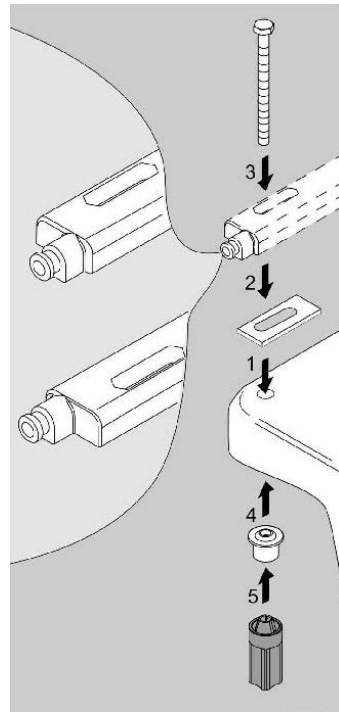

Fig. 3
10 Setup (Fig. 3 – 8)
2. Fix the crossbar with anti-slip protection, screws, nut and washer onto the toilet bowl. (Fig. 3)